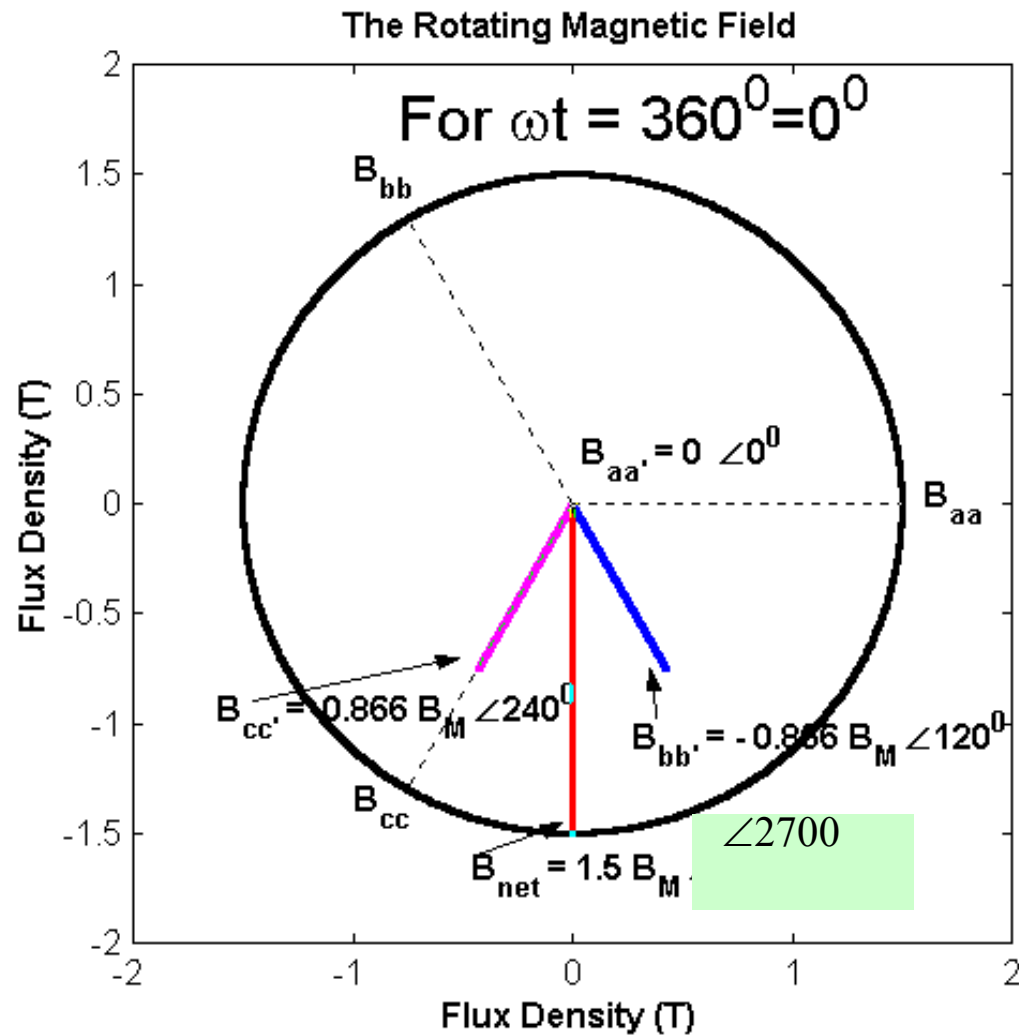

Figure 5.14(e): The net magnetic field vector for $\omega t = 360^\circ$
- The resulting net magnetic field is shown in Fig. 5.14(e).